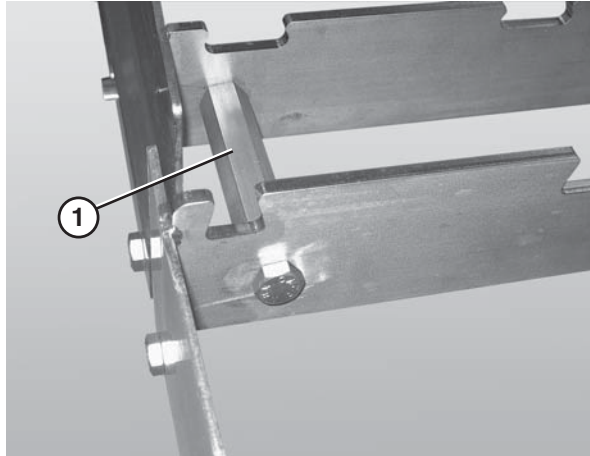

Figure 22
3. Connect the frame sections by bolting the hex post connectors (Figure 22, item 1) to the sections of frame.